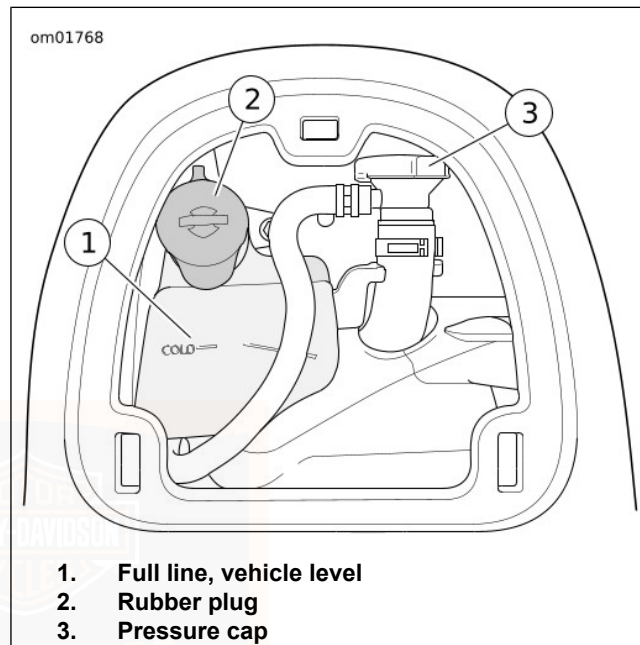

Figure 55. Coolant Level
2. See Figure 55. Check that coolant level in coolant bottle is at or slightly above the "COLD" line.